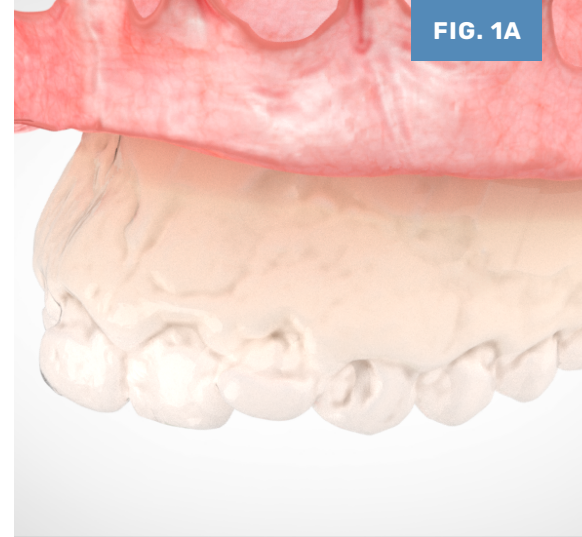

FIG. 1A
2. Lay full facial flap to expose bone apical to Fixation Base. **(FIG. 1A)**